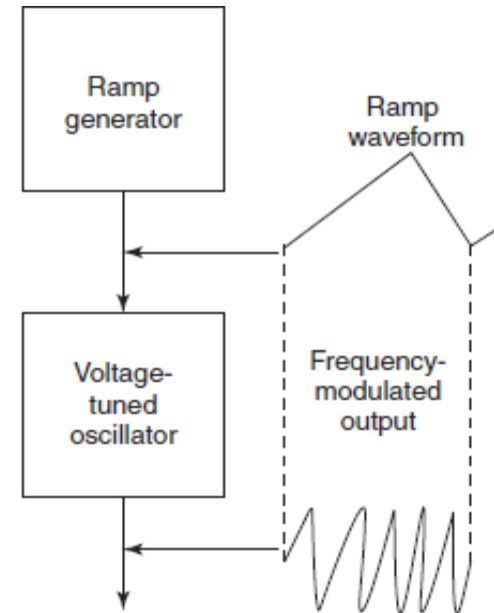

Figure 14-15 Block diagram of a sweep frequency generator
- ⦿ A sweep frequency generator is a signal generator which can automatically vary its frequency smoothly and continuously over an entire frequency range. Figure 14-15 shows the basic block diagram of a sweep frequency generator.